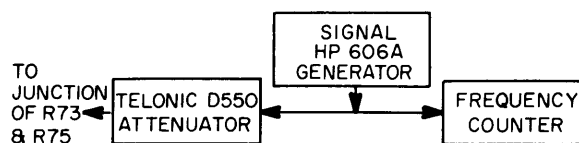

Figure 5-6. Translator, Test Setup
(20) Adjust capacitors C3, C9 and C19 for maximum level on meter.
(21) Vary frequency selector switches on front panel from 21.0000 MHz to 31.0000 MHz in 1 MHz steps. Minimum level indication on meter should be 0.4 volt rms. If necessary, stagger tune capacitors in step (20).
(22) Repeat steps (19) through (21) using 15.0000 MHz and pin 2 of J111 for step (19), capacitors C25, C30 and C41 for step (20) and 11.0000 MHz to 20.0000 MHz for step (21).
(23) Repeat steps (19) through (21) using 05.0000 MHz and pin 3 of J111 for step (19), capacitors C45, C49 and C62 for step (20) and 01.0000 MHz to 10.0000 MHz for step (21).
(24) Repeat steps (19) and (20) using 25.0000 MHz and pin 1 of J113 for step (19) and capacitors C10, C16, C22 and C28 for step (20).
(25) There should be a minimum of 0.4 volt rms on meter.
(26) Repeat steps (19) and (20) using 15.0000 MHz and pin 1 of J113 for step (19) and capacitors C39, C45, C51 and C56 for step (20).
(27) Repeat step (25).
(28) Repeat steps (19) and (20) using 0.50000 MHz and pin 1 of J113 for step (19) and capacitors C68, C75, C81 and C87 for step (20).
(29) Repeat step (25).
n. TRANSLATOR Z112. (See figure 5-6.) Align the translator as follows:
(1) Remove rf output card Z115 from unit. Set all frequency dials on front panel to blank positions and remove step generator Z113 card from unit (MODE switch on CMR()-4 to VOX).
(2) Connect 606A signal generator between junction of resistors R73 and R75 and ground as shown in figure 5-6.